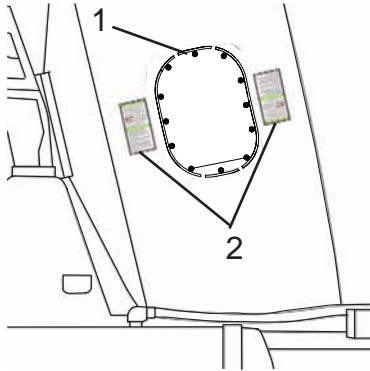

Figure 1
4. Position the drum hatch (Figure 1, Item 1) so the hatch is on the driver’s side to perform service and maintenance.
5. Make sure that the mixer drum warning decals (Figure 1, Item 2) are clean, readable, and properly positioned. Replace any damaged or unreadable decals immediately.